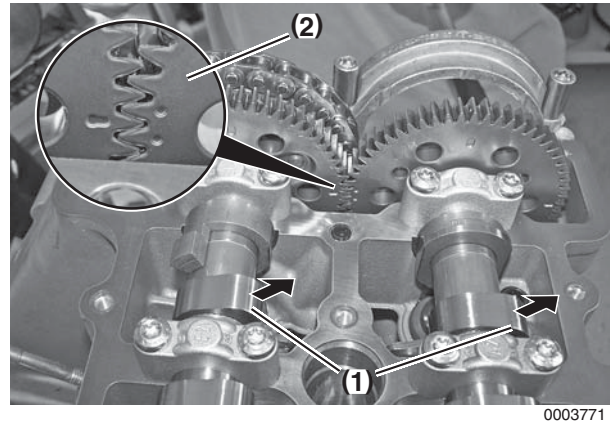

Figure 5-95
11. Rotate the crankshaft in the normal running direction until No. 1 cylinder is at TDC of the power stroke. The front lobe of each camshaft (**Figure 5-95, (1)**) will be facing toward the exhaust side and the timing marks (**Figure 5-95, (2)**) will meet.
12. Verify position by checking that the camshaft timing marks (**Figure 5-95, (2)**) on gears are aligned. The single mark on intake camshaft gear must fall between the two marks on the exhaust camshaft gear.